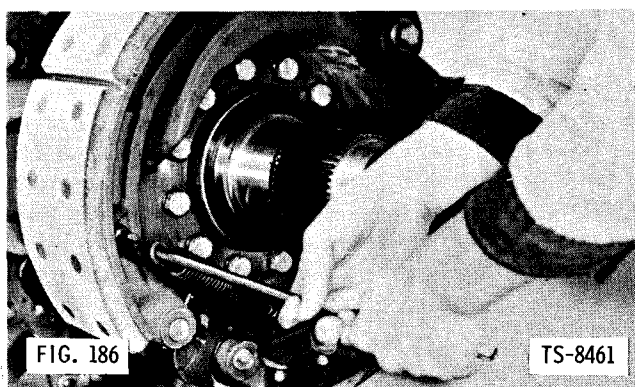

FIG. 186
27. Install brake shoe return spring (Fig. 186). Before installing spring, make sure that slack adjusters are adjusted to allow brake shoes to come together as closely as possible so that spring tension will be at a minimum during installation.